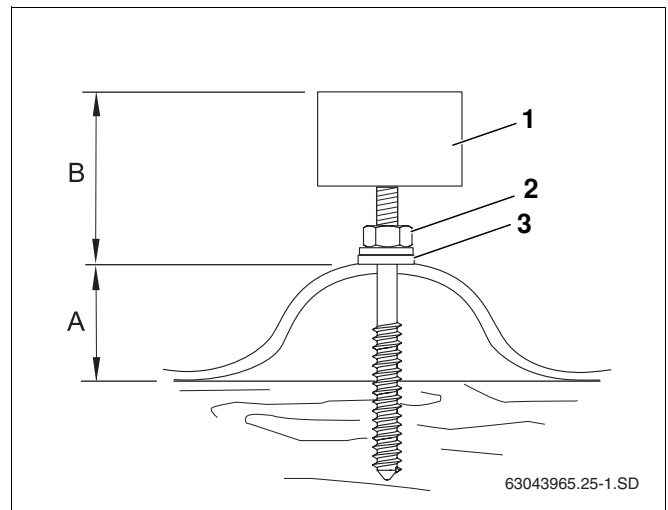

Fig. 24 Carriage bolt fitted to corrugated roof
When screwing in carriage bolts, ensure that the distance B (Fig. 24) is the same for all carriage bolts.
- Tighten the nuts (Fig. 24, **Item 2**) until the sealing disc (Fig. 24, **Item 3**) is lying completely flush on the roof.